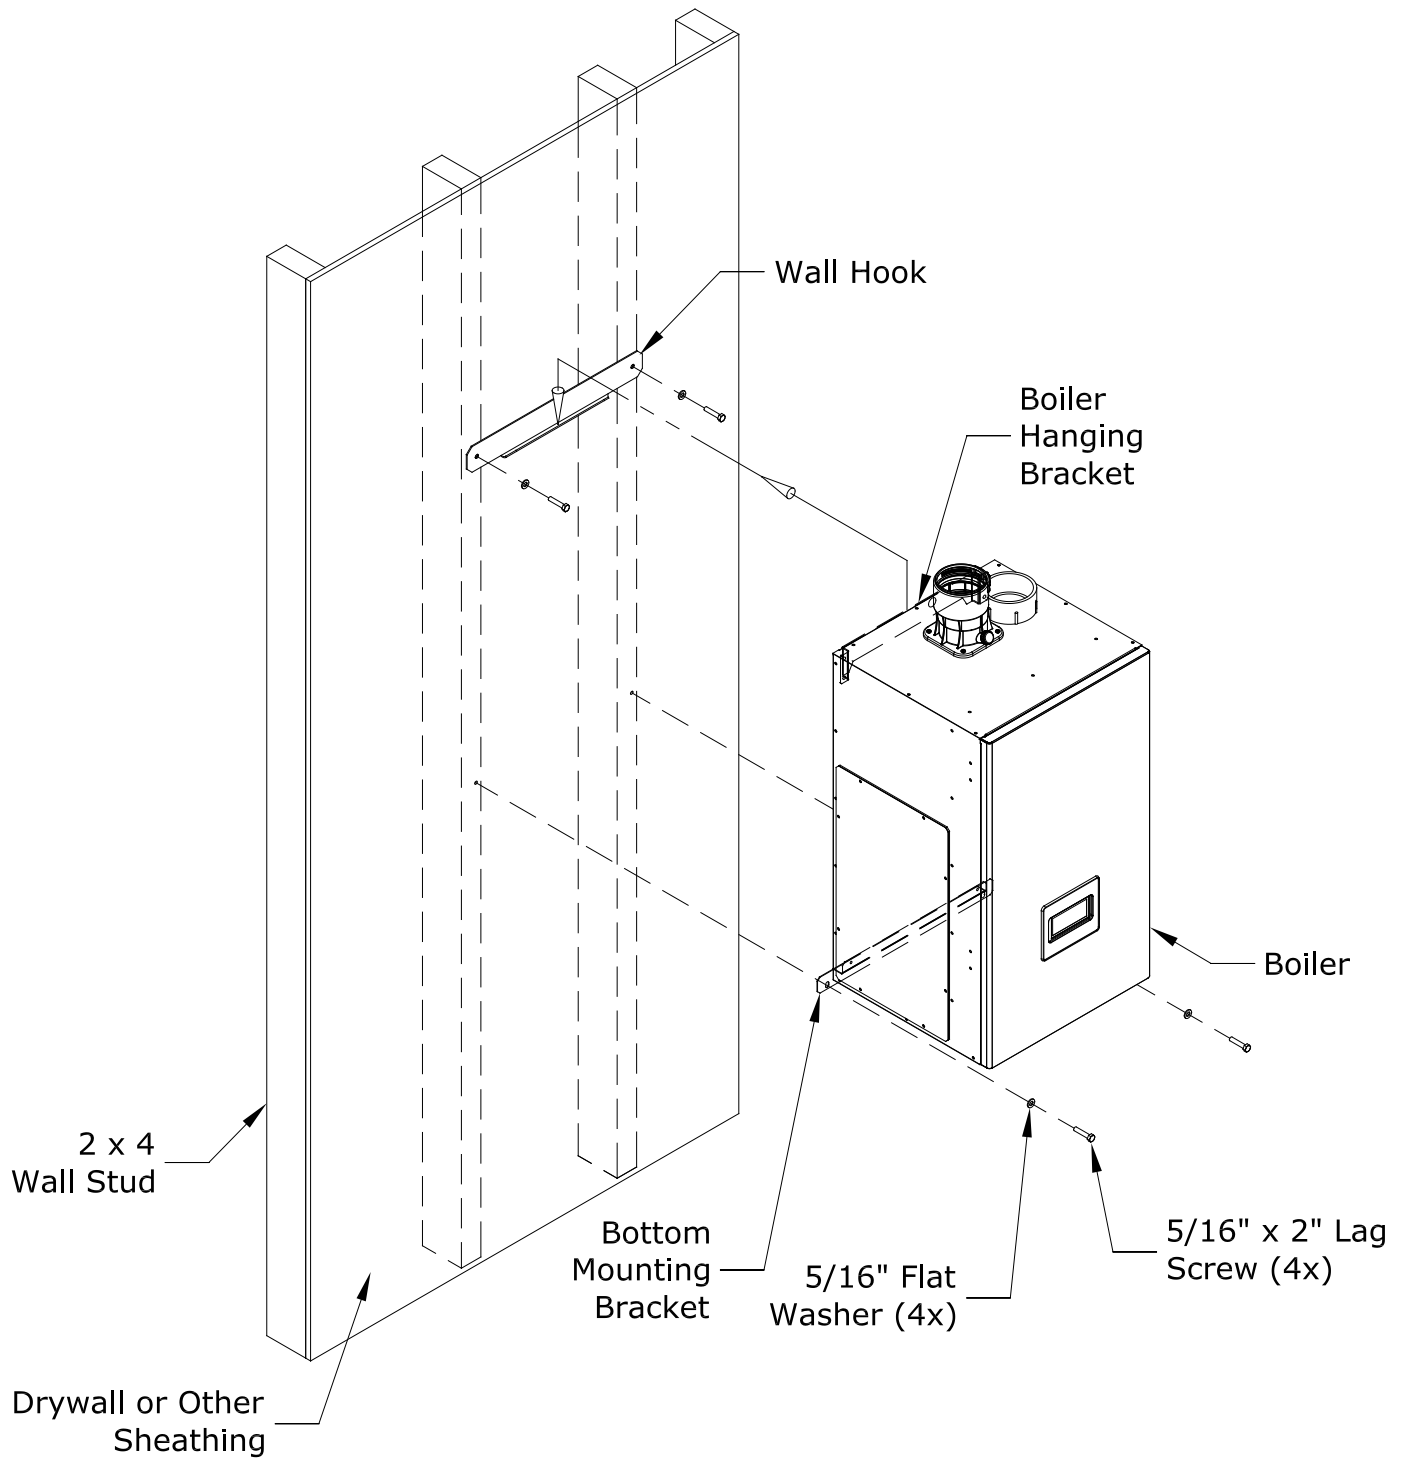

Figure 5.2 Boiler Mounting Bracket Installation / Boiler Wall Mounting
6. The wall mounting hook is used to secure the boiler to the shipping pallet. Remove this hook from the pallet and secure to the wall using the 5/16" x 2" lag screws and washers, or other suitable anchors as appropriate (Figure 5.2). Make sure the hook is level.
7. Hang the boiler on the wall hook as shown in Figure 5.2.
8. If not already done in Step (5) locate and drill holes "C" and "D" using the obround slots in the bottom mounting flange. Secure the bottom flange to the wall using the 5/16"x 2" lag screws, or other fasteners as appropriate (Figure 5.2).